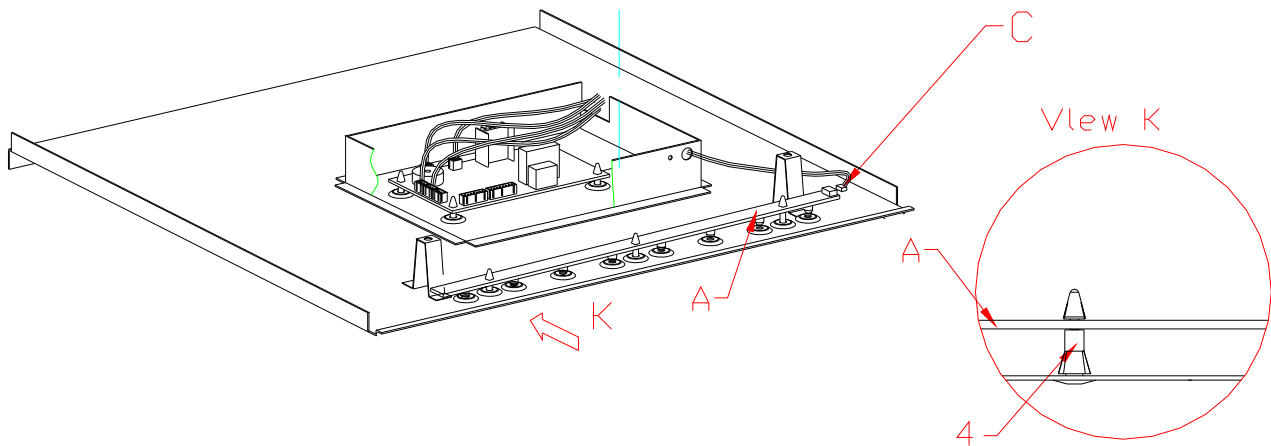

Fig. 14
2. How to replace middle and lower LED light:(Fig.14)
3>, Disconnect the connector(C),pinch the head of the plastic nail,pull up the display,take the PCB away from nail one by one,and take apart the light PCB,replace it.(Fig.14)